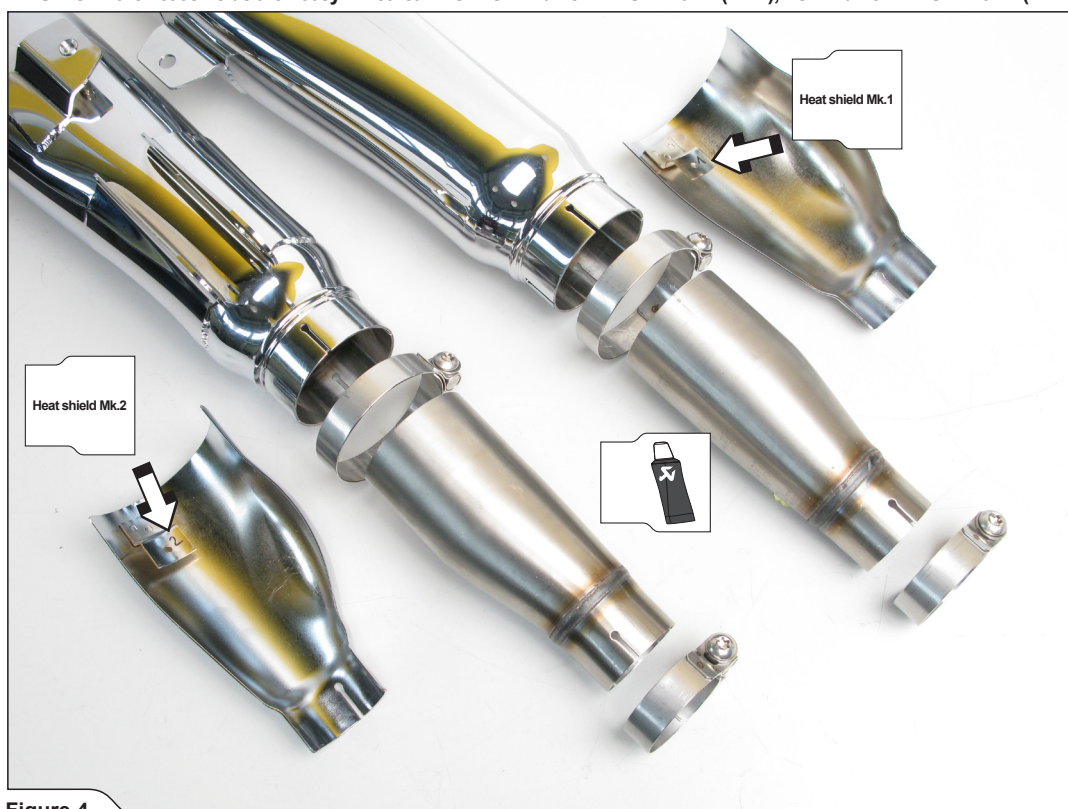

Figure 4
1. Correctly assemble the mufflers, link pipes, clamps and heat shields (Figure 4, 5).